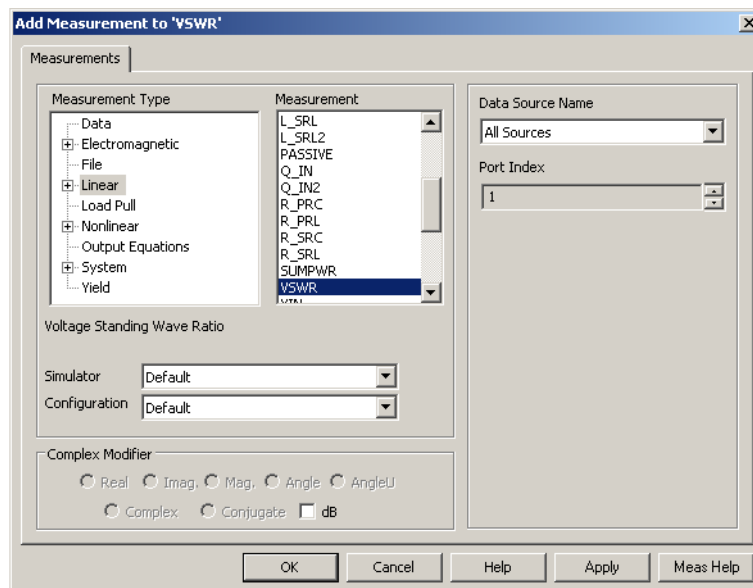

Figure 8.5: Chart 6 : VSWR Measurement Setup
- Add a measurement which conforms to figure 8.5. This is done by right clicking the VSWR graph in the ‘Project Browser’ and in the pop-up menu select ‘Add Measurement’.